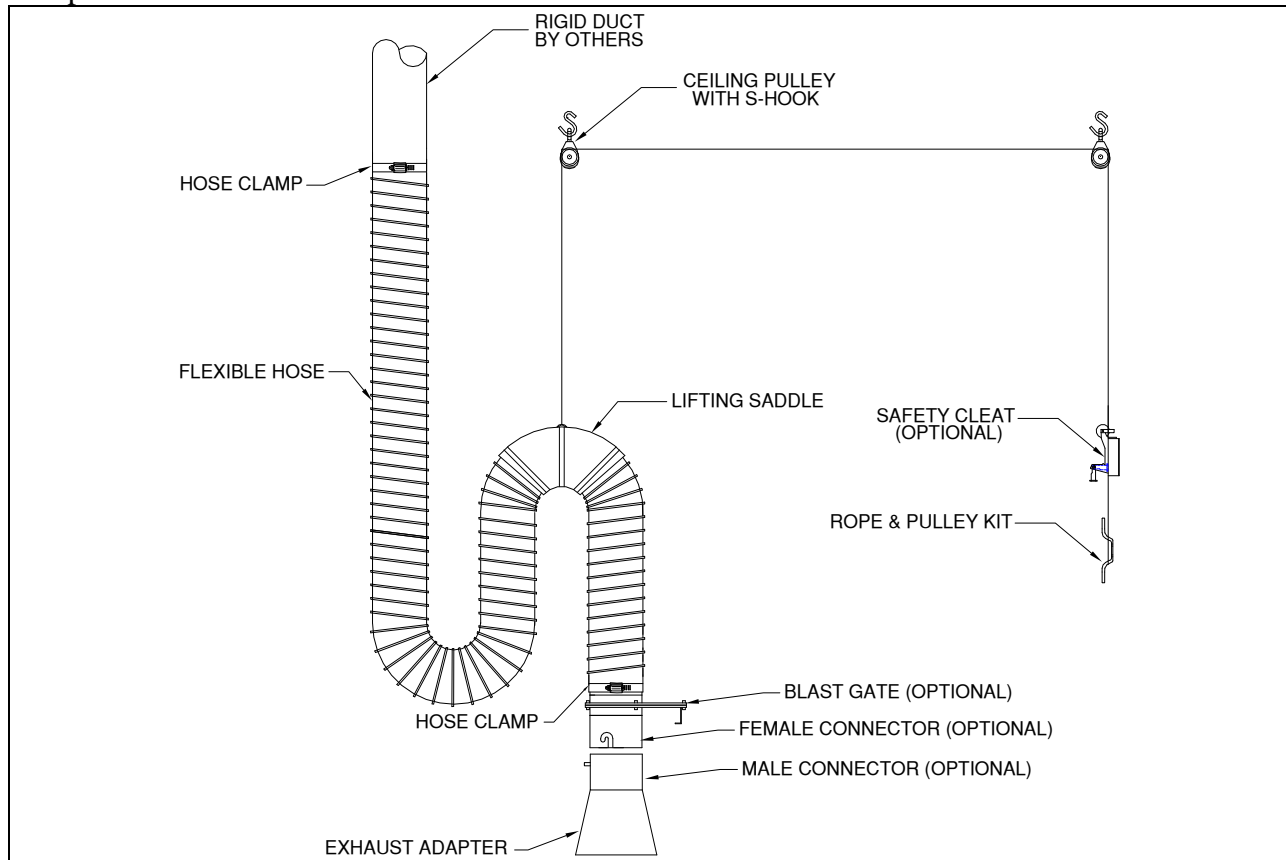

FIG 3
10. Fasten the wall cleat to a wall or column approximately 4' up from the floor (See FIG 3). Mount the optional safety cleat approximately 1 foot above the wall cleat if provided. Install the safety cleat in-line with the wall cleat and pulley.